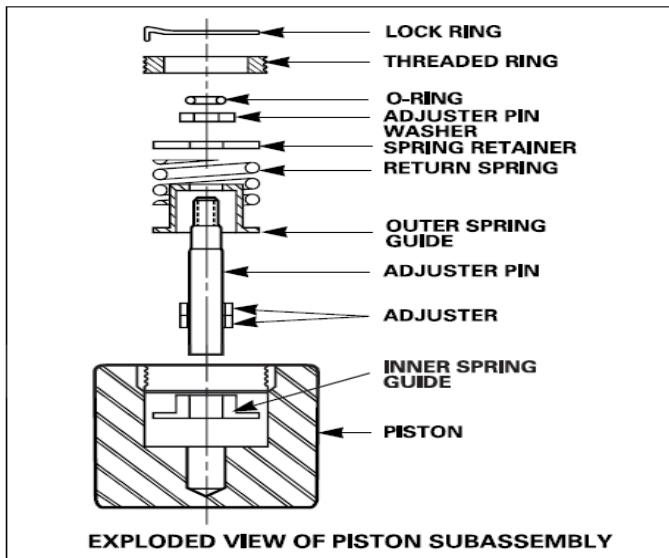

Figure 5.2
1. Install the inner spring guide into the piston cavity. Figure 5.2.